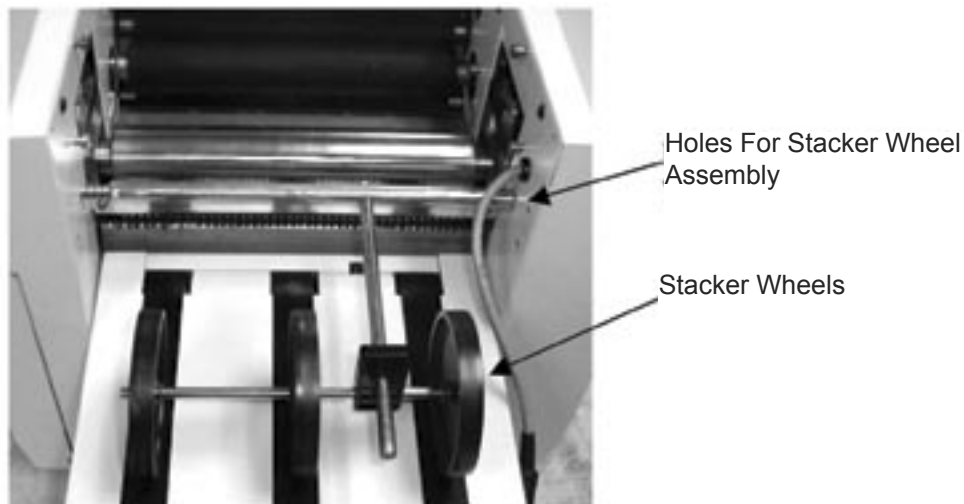

Figure 8
6. Install the stacker wheel assembly into the holes indicated below (figure 8).